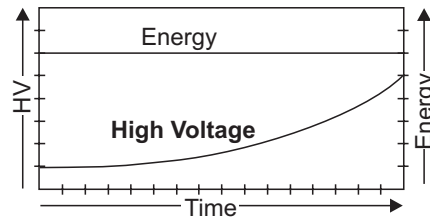

Figure 9: Voltage increase in the Energy Constant mode
- If the Energy Constant mode is selected, the laser control continuously adjusts the high voltage to achieve laser operation at a preset energy level (see Figure 9).